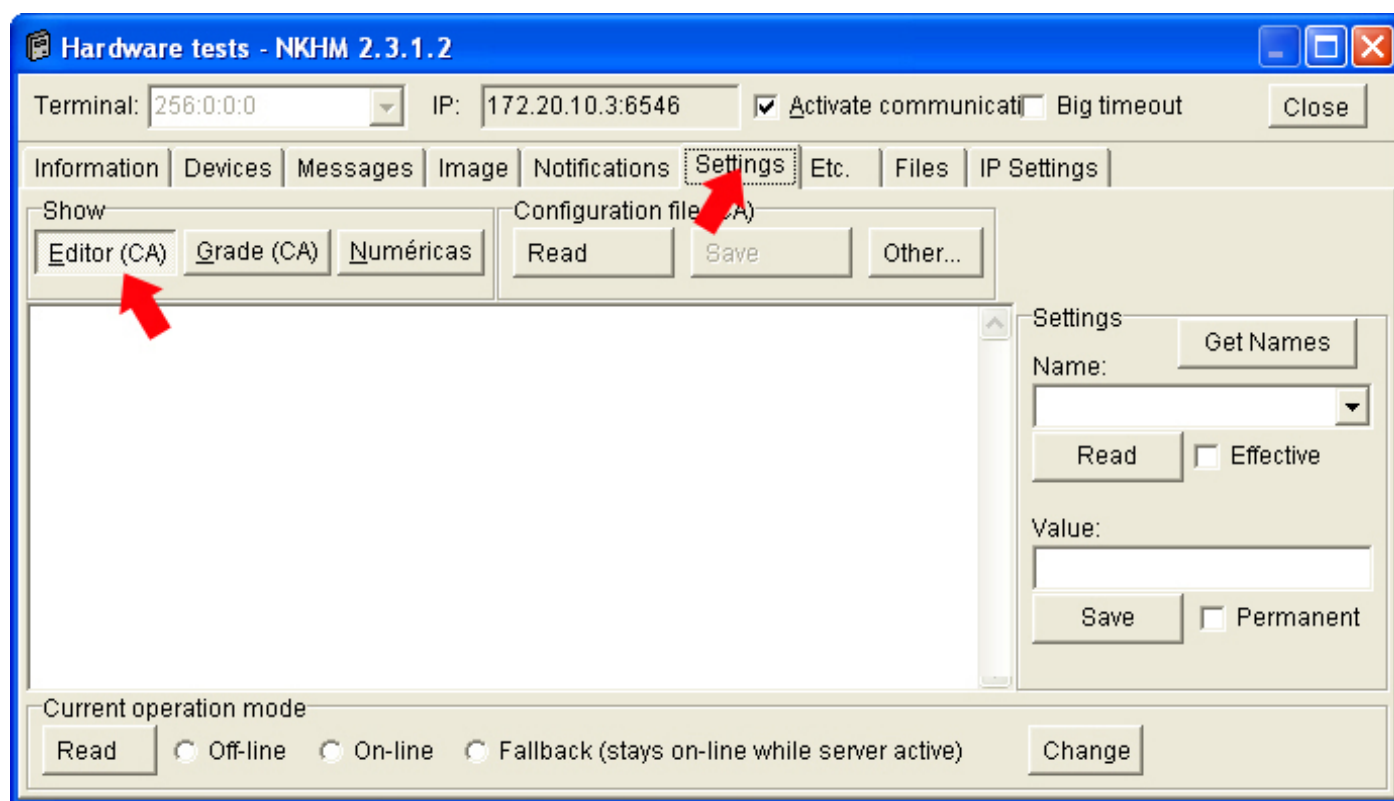

Fig. 57 - In the “Settings” tab options, click on the “Editor (CA)” button.
4 – Click on the “Settings” tab. In the “Show” pane, click on “Editor (CA)” button; (fig. 57).